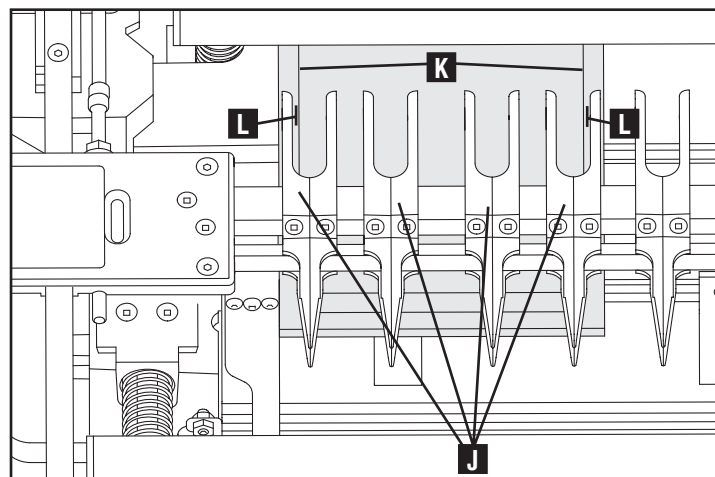

Fig. G6
**NOTE:** Be sure to space the fingers (J) around the tall edges (K) of the workpiece, as shown in Fig. G6. Maintain 1/8" gap at (L).